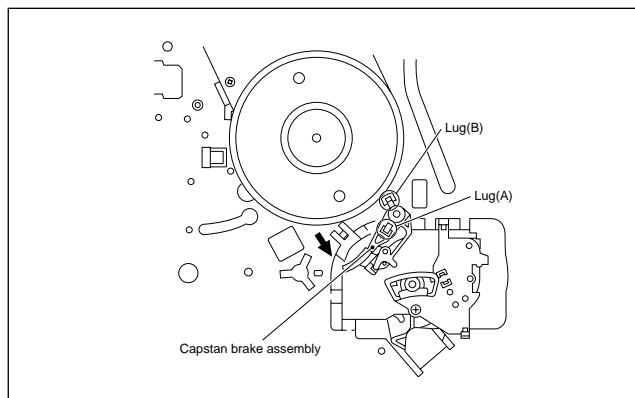

Fig. 2-2-18a
- (1) Move the lug (A) of the capstan brake assembly in the arrow-indicated direction so that it comes into alignment with the notch of the main deck. (See Fig. 2-2-18a.)
- (2) Remove the lug (B) of the capstan brake assembly from the main deck and remove the capstan brake assembly.